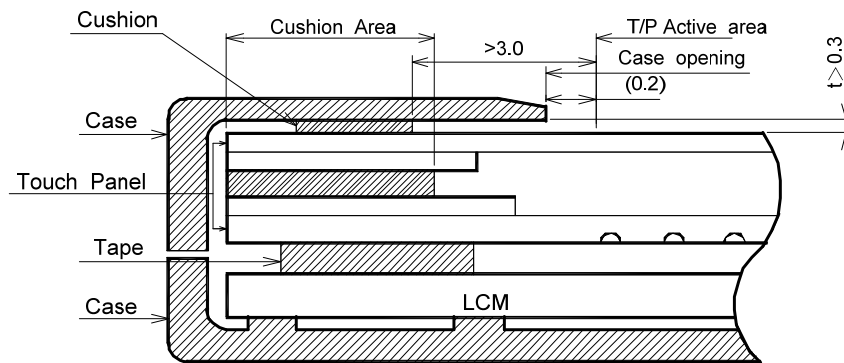

Fig. 13.1
1) Please refer to Fig. 13.1 for housing the display with touch panel into applications. The Fig. 13.1 shows some points as below:
- 1) The lot mark is showing in Fig.13.1. First 4 digits are used to represent production lot, T represented made in Taiwan, and the last 6 digits are the serial number.